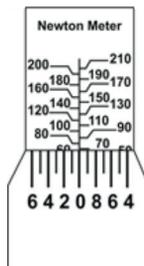

Abb.1
- Turn the handle clockwise until the zero mark of the adjustment dial is even with the length marker in the middle of the torque dial (**Fig.1**).